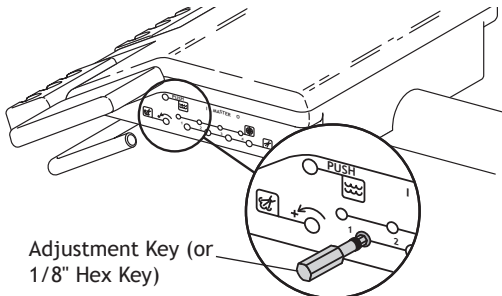

Figure 7. Coolant Water Flow Control
The coolant water flow controls are used to adjust the flow of coolant water to each handpiece (see Figure 7).
*You will need an adjustment key (see Figure 7) or a 1/8" hex key to complete this adjustment.*
2. Locate the coolant water flow controls (see Figure 7).